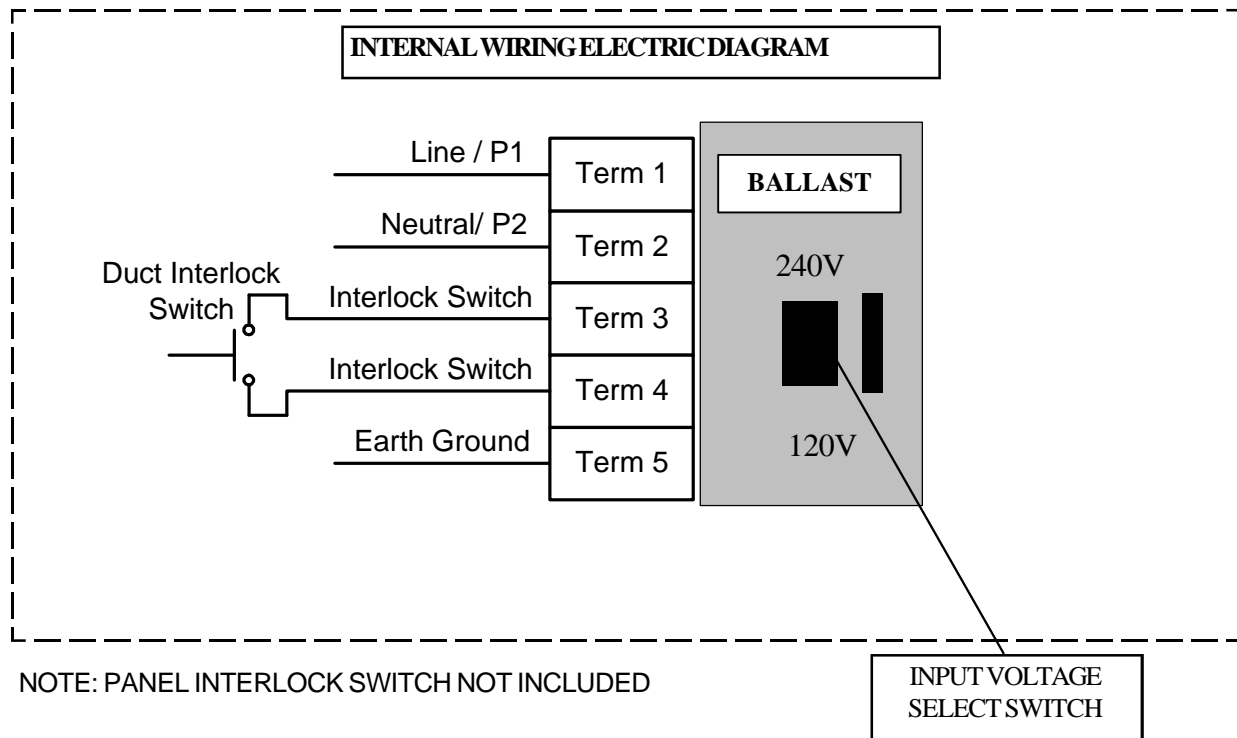

FIG. 5 EXTERNAL DUCT MOUNT INSTALLATION WIRING DIAGRAM
1. Remove the cover to the electrical sub-panel, exposing the ballast and installation wiring. See Fig. 5.
5. Connect the electrical service wires and external safety interlock to the unit according to the Installation wiring diagram in Fig. 5, using terminal block.
15. Adhere the HVAC maintenance label to the all HVAC equipment (selected in step 24) such as the furnace, air cleaner, humidifier or access panel. Fig. 5. Wiring diagram.